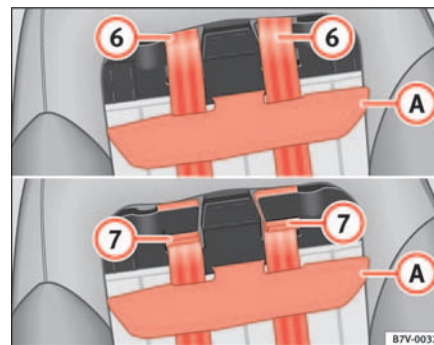

Fig. 36 Section of the integrated child seat: Adjusting the belt routing
- Pull the upper part ⇒ fig. 36 (A) of the support off the Velcro fasteners to the front.
- For larger children, guide the two shoulder belts in the side slots to the upper position (6).
- Then push the support (A) under the belts and secure it ⇒ ⚠.
The support ⇒ fig. 36 (A) must be pressed onto the seat in the area of the Velcro fastener in such a way that the belts can move freely in the slots. ■